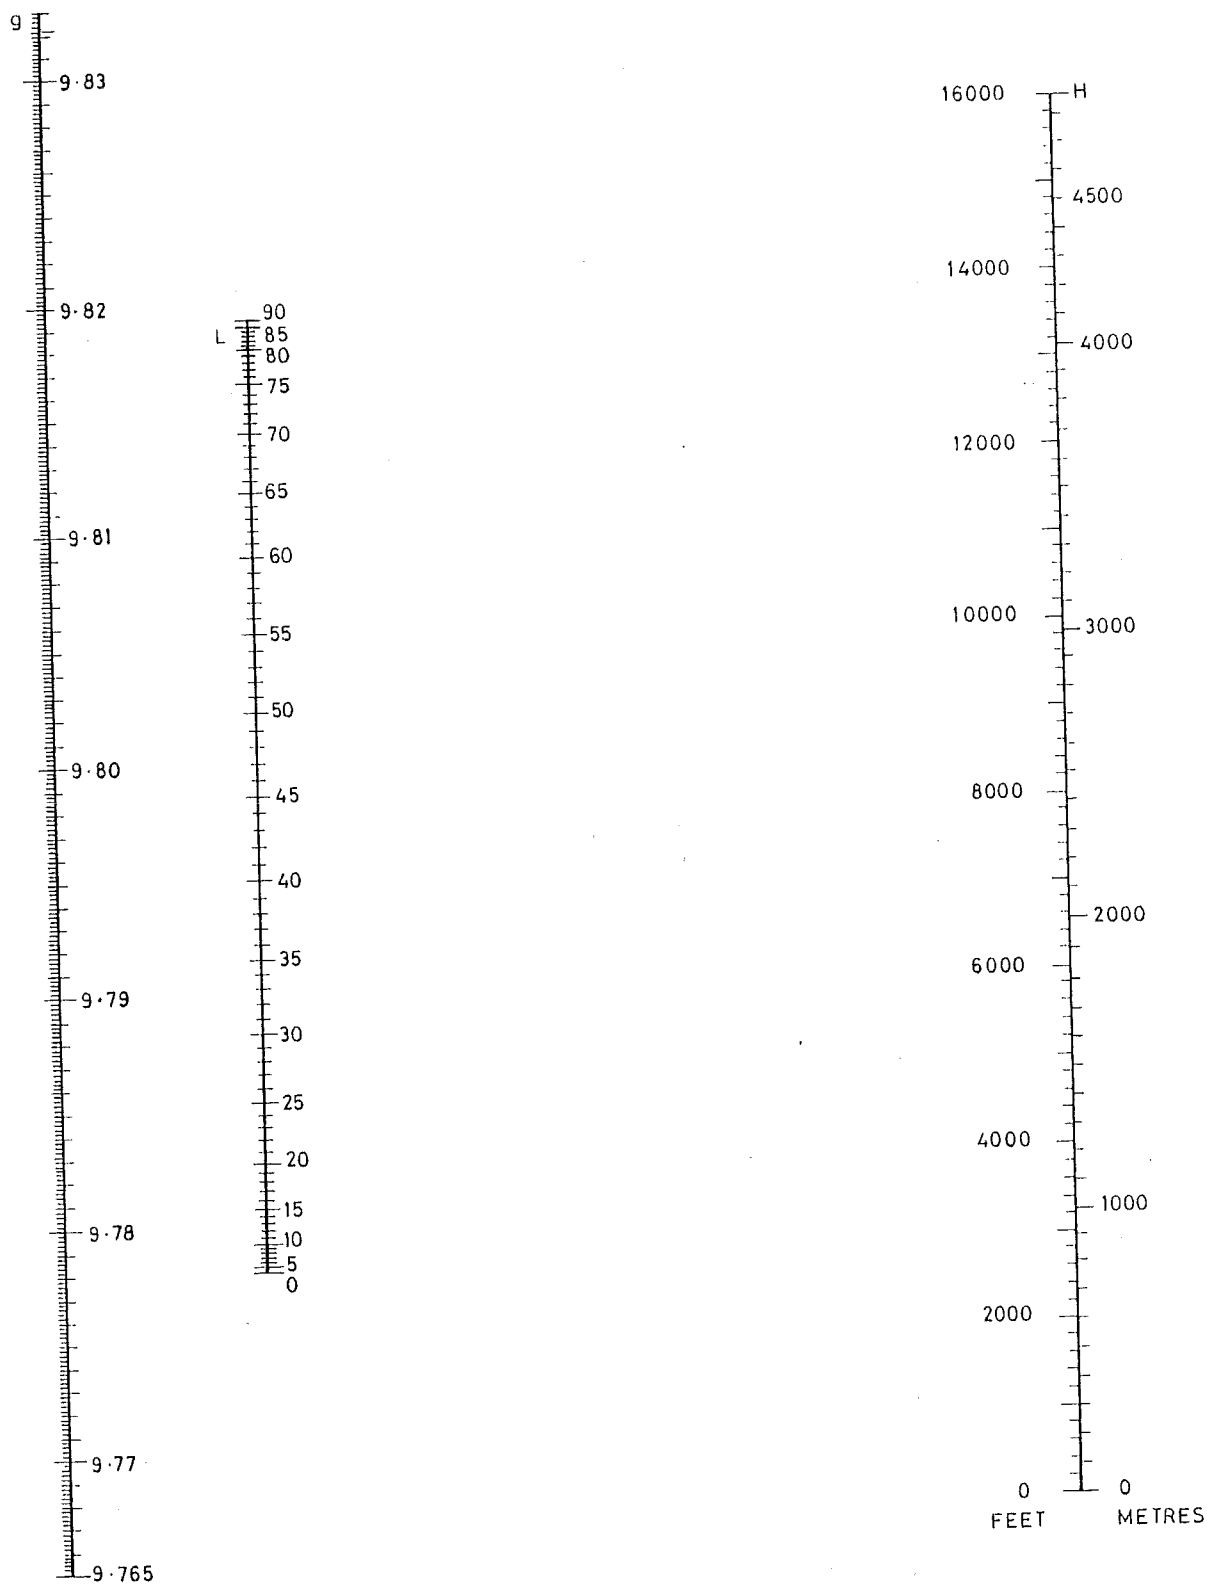

Fig 5 Nomogram for finding the value of 'g' from altitude and latitude
23.2 Approximated from the Nomogram (fig 5)